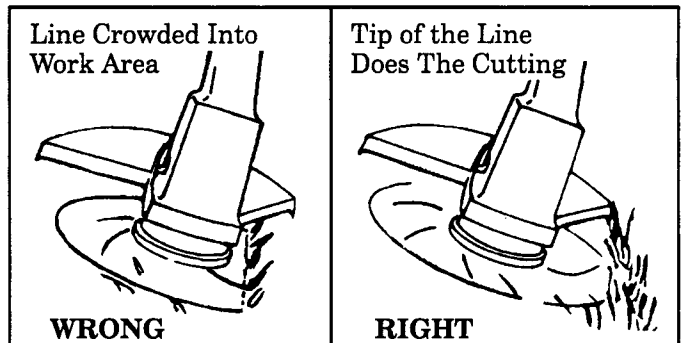

Figure 12
- **The tip of the line does the cutting.** You will achieve best performance and minimum line wear by not crowding the line into the cutting area. The right and wrong ways are shown in Figure 12.